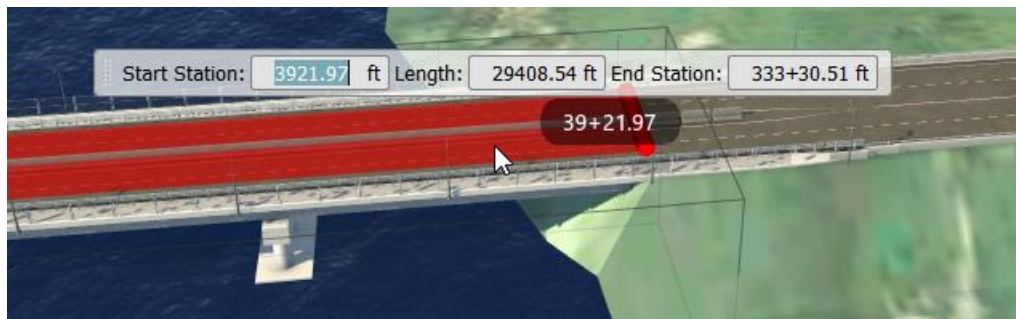

FIGURE 7
5. In the model, click on the design road at the station where you want the bridge to end. Alternatively, you can press <Tab> and type the bridge length, or you can press <Tab> twice to type the ending station, then press <Enter>, as shown in Figure 7.